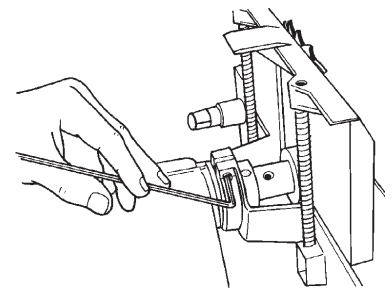

Figure B-107
- 87. Use the 5/32" Allen wrench to tighten the socket head screw (215) on the saw guard collar, as seen in Figure B-107.